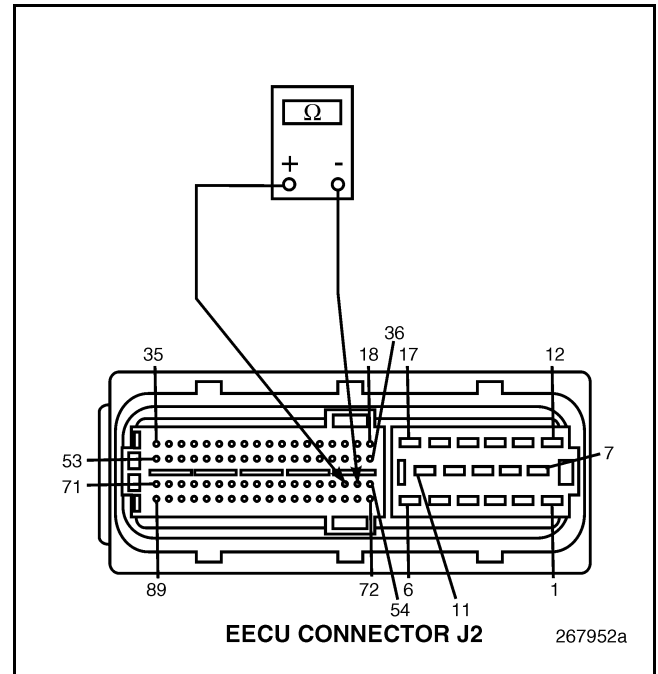

Figure 375
4. Measure the resistance between EECU connector J2 pins 55 and 56 (see Figure 375).